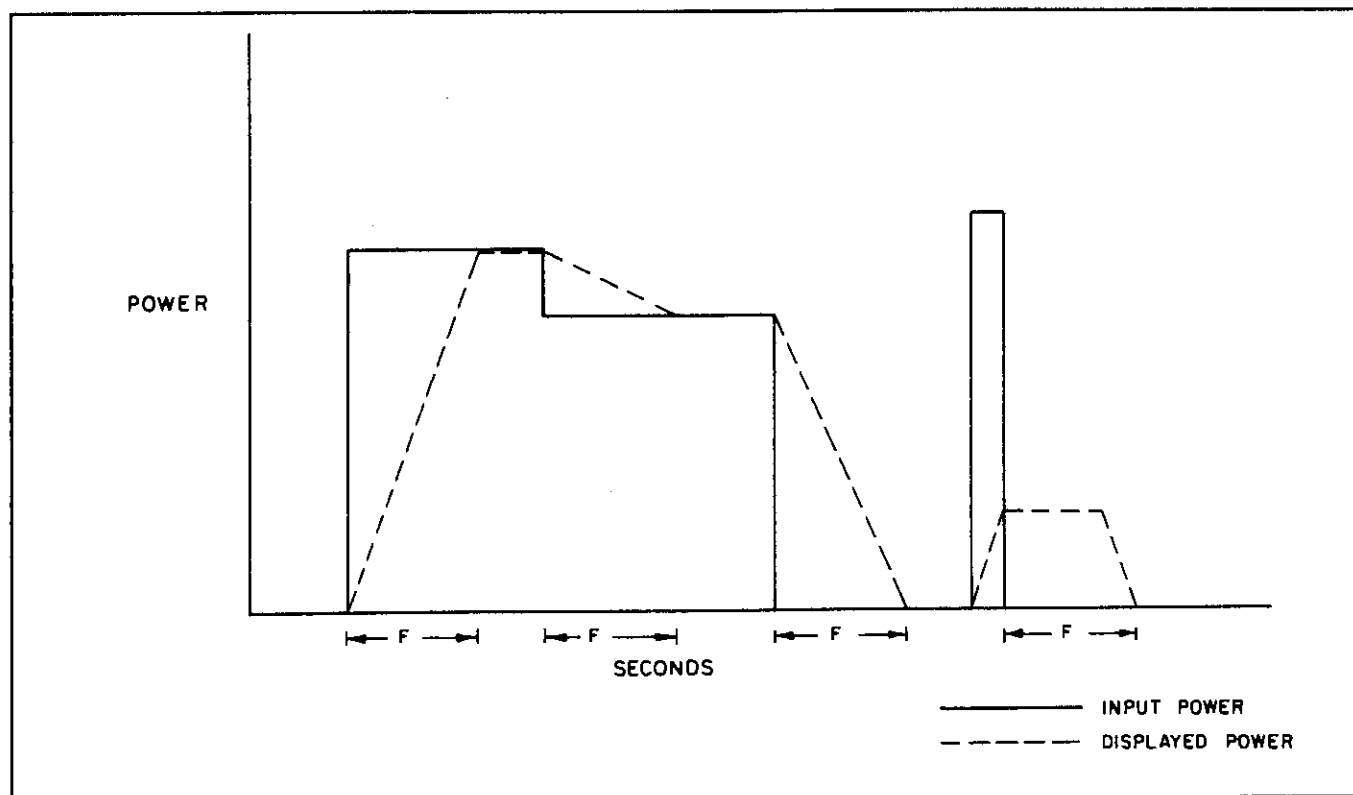

Figure 4-13. Integration of Power
4. **Integration of Power.** With long filtering, panel readings may seem erroneous because the filter has not been cleared. For example, with a 20 second filter, if a 2 second RF pulse is applied, the display will indicate a nonzero level for 18 seconds after the pulse has gone away. Additional pulses will be integrated along with the first until, by the process of selective deletion, the pulses are removed one at a time from the filter. Actually, measurement samples are deleted, not the pulses, giving rise to a ramping effect at the display/output. This is shown in Figure 4-13. In all senses, the filter is a simple integrator. This scheme is not the best if one considers noise rejection versus bandwidth alone, however, bandwidth is not a quantity of direct interest here. For the best compromise of noise rejection and settling time, this method is ideal and has the additional benefit that the output ramp response is easy to interpret, and the display settles abruptly when filtering is complete.